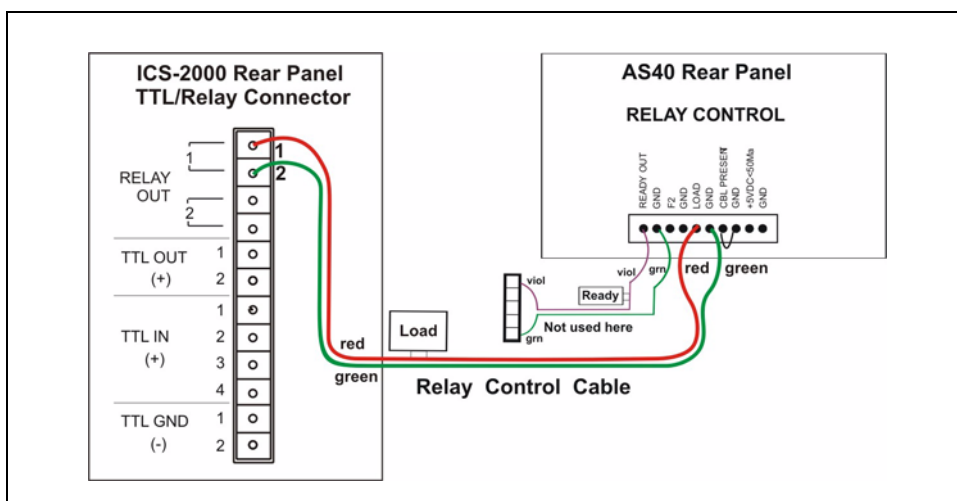

Figure B-110. Example AS40 Autosampler Connection
8. Connect the relay control cable's 10-position connector plug to the **RELAY CONTROL** connector on the AS40 rear panel (see Figure B-110).
9. Plug the 12-position connector plug into the TTL and relay connector on the ICS-2000 rear panel (see Figure B-110). Make sure the red wire connects to position 1 and the green wire connects to position 2.